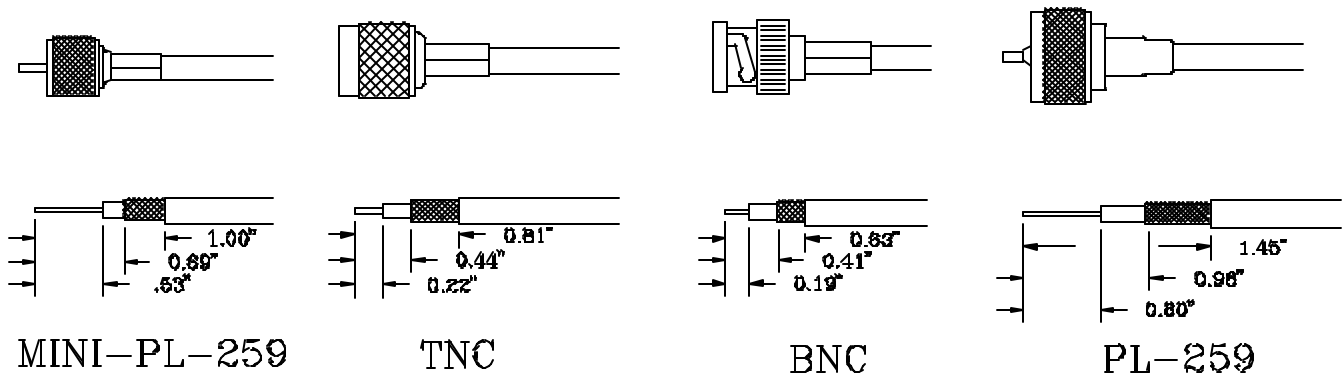

Figure 5 - Cable Stripping Dimensions
8. **Install Connectors:** Refer to Figure 5 - Cable Stripping Dimensions (Drawing is not to scale).